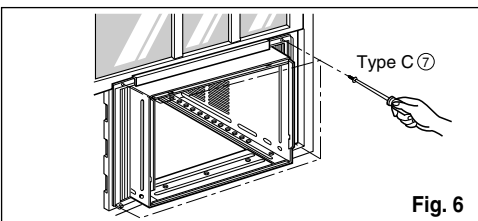

Fig. 6
9. Attach each Frame curtain the window sash using screws ⑦(Type C).(See Fig. 6)